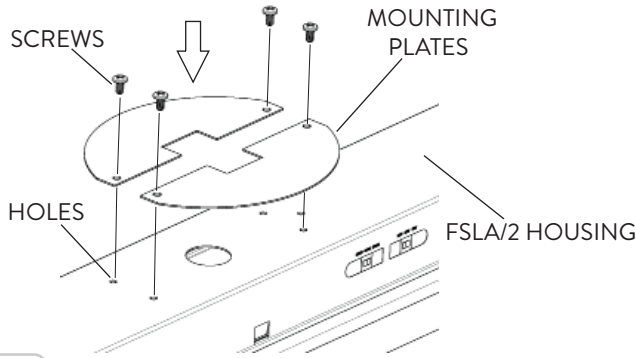

FIG. 3
- 1 The Standard Surface Mount Kit for the FSLA/2 fixture consists of the Mounting Plates. Install the Mounting Plates (2) to the FSLA/2 fixture by placing and aligning to each hole on the FSLA/2 Housing. Screw in Screws (4) at the center of the Housing (Fig. 3).